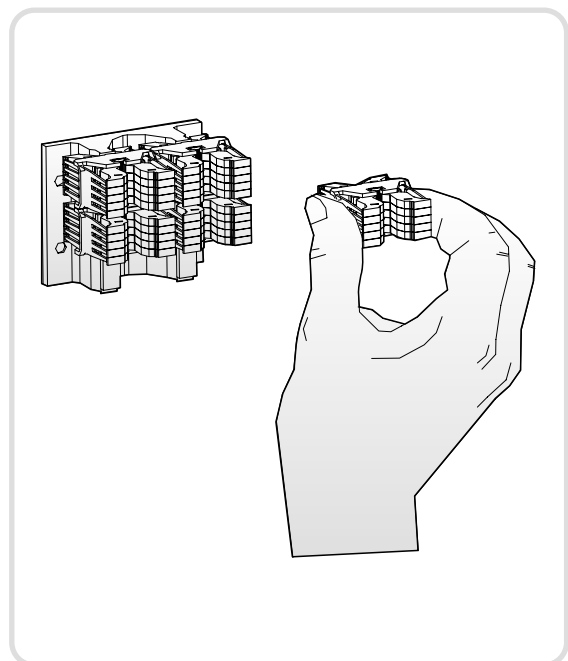

Fig 9. Mounting and separation of Cluster
- Check Cluster. (Refer to fig. 9.)
- 3) Remove the cluster by hand and replace it with a new one when damage of the cluster is confirmed. (refer to fig. 9)